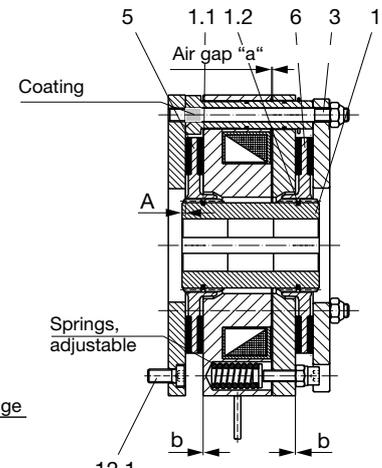

Fig. 12
- ❑ Dimension “A” (Fig. 12) must be kept to.
1. Mount the gear hub assembly (1) onto the shaft according to Fig. 12, **please observe dimension “A” according to Fig. 12; please observe the entire carrying length of the key, and secure axially (e.g. using a locking ring).**
2. If necessary, mount the flange plate (12) using the cap screws (12.1) (please observe the tightening torque).
3. Using light pressures, push rotor 1 (5) by hand over the O-rings (1.1 and 1.2) onto the gear hub (1) (Rotor collar faces away from machine wall or flange plate). Please make sure that the toothing runs smoothly. Do not damage the O-rings.
4. Manually screw in the double end studs (3) **with coating thread-side** until reaching the coating (screw-in limitation) in the threaded holes of the brake screw-on surface (machine wall) or on the flange plate, screw in by hand up to its limit (secure with LOCTITE 243).
5. Push brake body (2) over double end studs (3).
6. Manually push rotor 2 (6) onto the gear hub (1) (over O-ring (1.2)) (**Rotor collar faces away from machine wall or flange plate**). Please make sure that the toothing runs smoothly. Do not damage the O-rings.
7. Push brake plate (16) over double end studs (3).
8. Screw on brake evenly all around using the hexagon head nut (4). (**Tighten hexagon nuts with a torque wrench. Observe tightening torque.**)